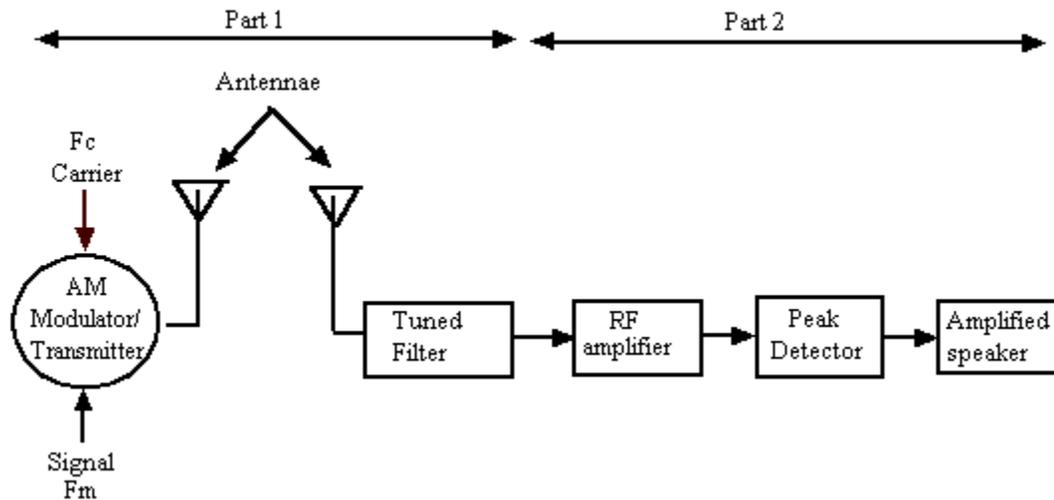

Figure 1: Elements of a basic AM Radio Transmission System
This mini-project is the continuation of the AM Radio Transmission System lab you did earlier. In this lab you will build the receiver section (part 2), shown in Fig. 1 below. The goal of the circuit of part 2 is to recover the modulation signal $v_m(t)$ that contains the information of interest (e.g. the voice or music transmitted over the radio waves).
You will learn how to demodulate an AM signal, using a peak detector (or envelope detector), and how to amplify this signal using an audio amplifier. Once you have built these elements you will put the modulator (built during part 1) and the demodulator together and test out the overall system of Fig. 1.
8. Connect a 1 to 2-ft long wire as antenna to the transmitter and receiver circuits (Fig. 1). Place the antennas parallel to each other, at a close distance (if necessary twist the two wires to get better coupling). Since the transmission and reception efficiency at these relatively low frequencies is low, we suggest that you couple the output of the transmitter to the input of the receiver through a 15 pF capacitor. This will increase the received signal considerably.